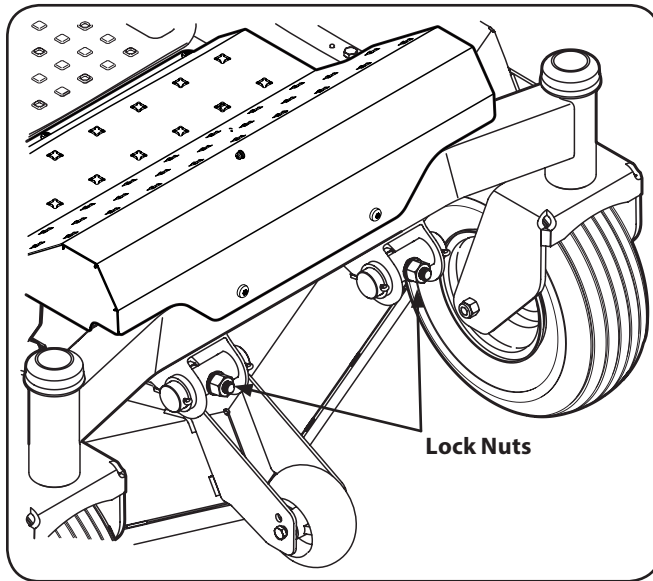

Figure 6-6
- Using a wrench, raise or lower the front of deck by turning lock nut on the front deck lift rod. See Figure 6-6.